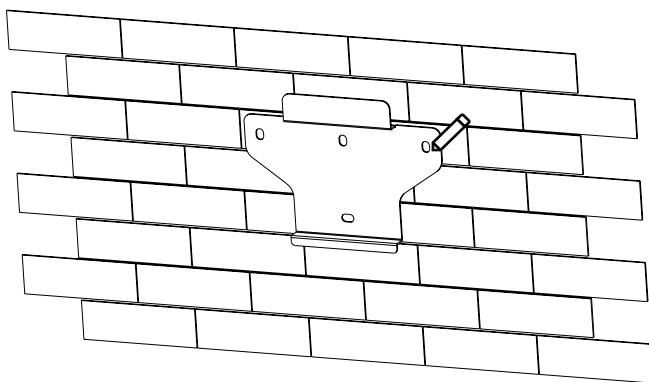

Figure 4-5 Marking hole position using installation bracket
① Use the wall bracket as the template to mark the position of 4 holes on the wall. See Figure 4-5 for details: